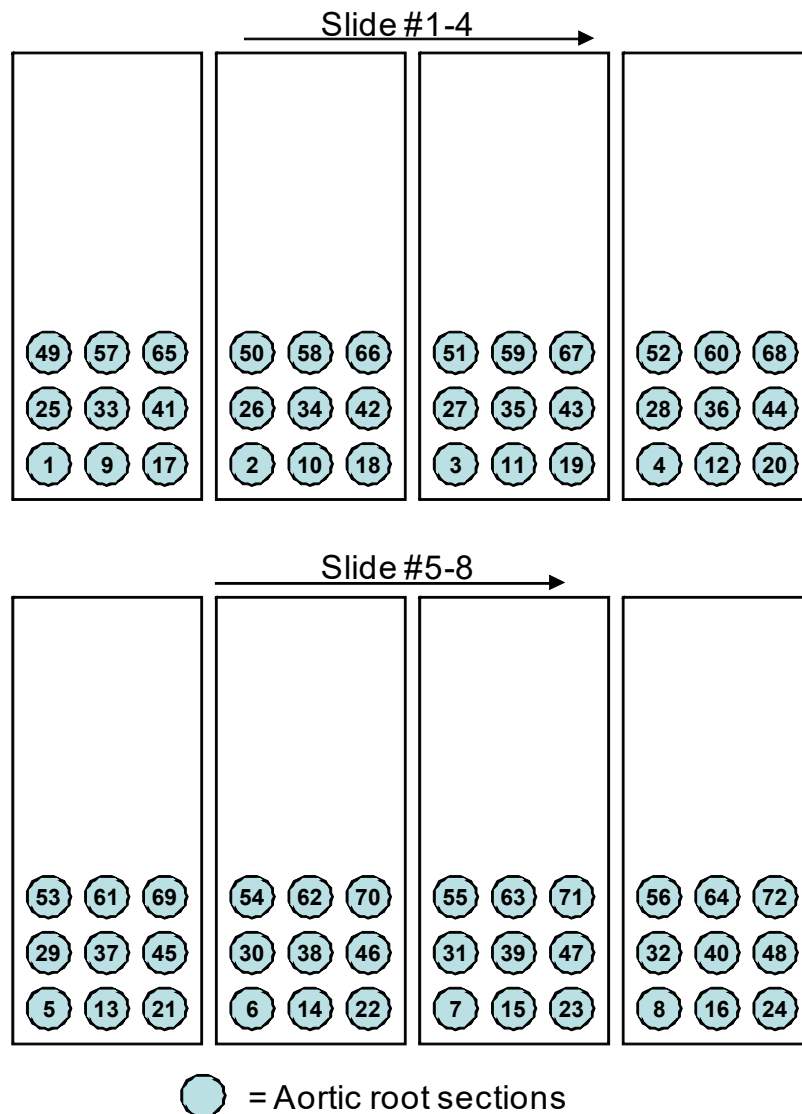

Fig 2. The organization of sections on consecutive slides
4. Collect at least 9 sections per slide (**Fig 2**). Collect first section produced on bottom left corner of slide 1. Collect second section on bottom left corner of slide 2 and subsequent section in this mode. Collect eleventh section to the right of first section on slide 1. Collect serial sections by holding labeled slide downward with the label facing you. The ascending aorta should be on towards the top of the slide and the descending on bottom of slide.